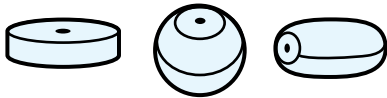

Figure 10: Various float shapes. (L-R) Disc, round and torpedo.
**Floats:** These generally come in three shapes as per diagrams in Figure 10.